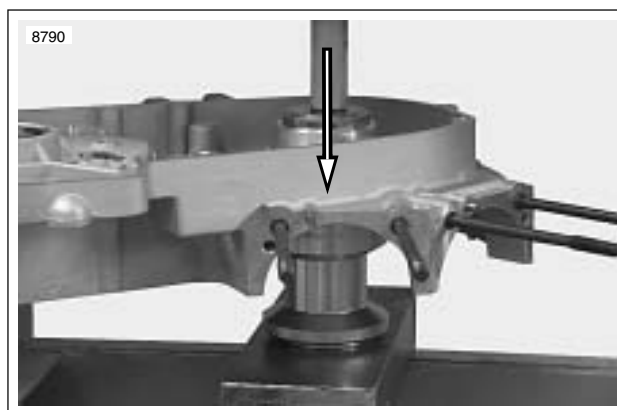

Figure 3-139. Direction of Bearing Removal From Left Crankcase
8. See Figure 3-139. Using CRANKCASE BEARING REMOVER/INSTALLER with ADAPTER (Part No. B-45655, HD-42720-2 and HD-46663) press left main bearing out of the left crankcase half.